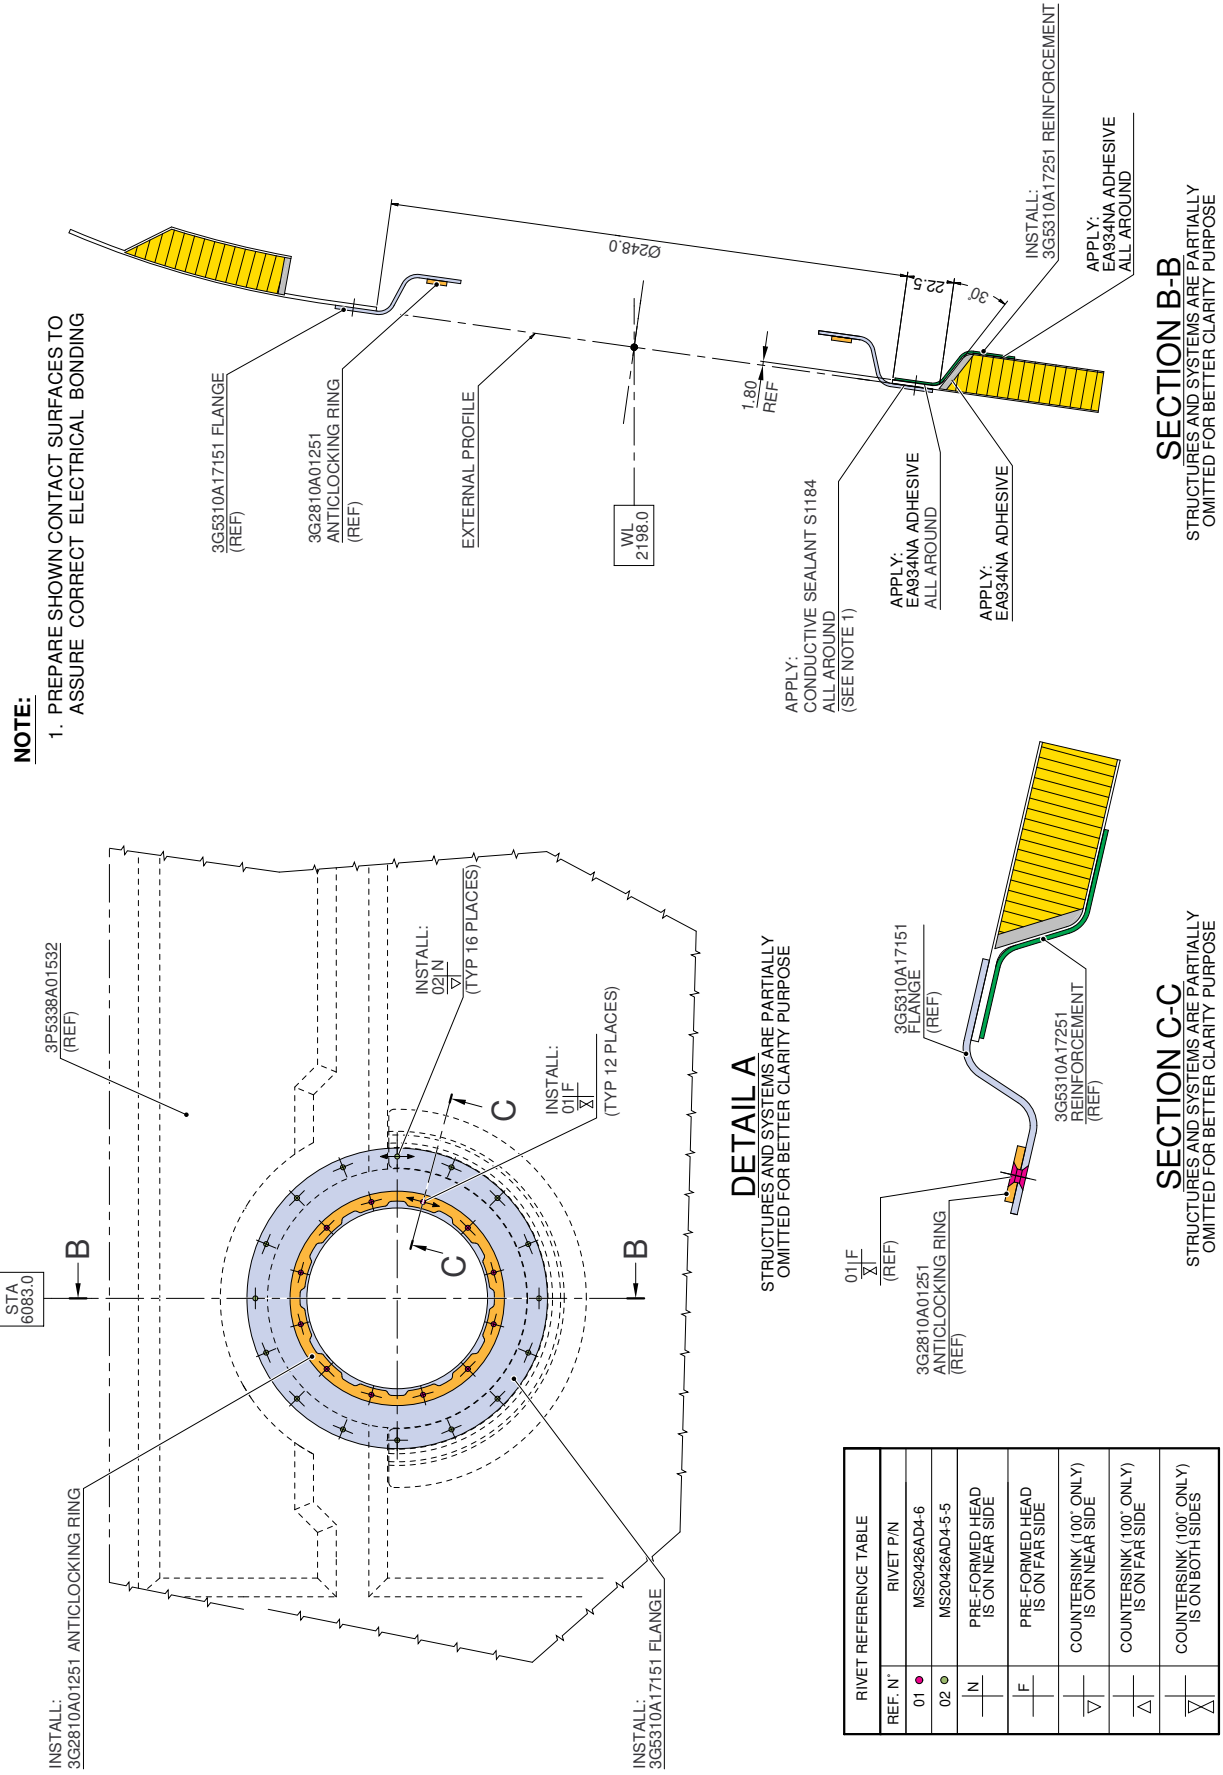

Figure 10
- 3.6 With reference to Figure 10 Section B-B, install the reinforcement P/N°3G5310A17251 by means of adhesive EA9309.3NA (C021).
- 3.8 With reference to Figure 10 Detail A, install the anticlocking ring P/N 3G2810A01251 by means of n°12 rivets P/N°MS20426AD4-6 on the flange P/N°3G5310A17151.
- 3.9 In accordance with AMP DM 39-A-20-10-01-00A-259A-A and with reference to Figure 10 Section B-B, prepare the indicated contact surfaces to assure the correct electrical bonding.
- 3.10 With reference to Figure 10 Detail A and Section B-B, install the flange P/N 3G5310A17151 by means of n°16 rivets P/N° MS20426AD4-5-5 on the panel P/N 3P5338A01532. Use conductive sealant S1184 all around.